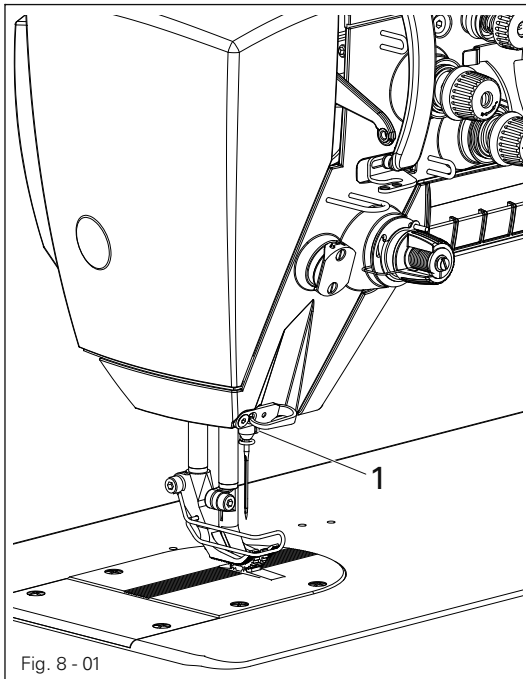

Fig. 8 - 01
- Pass the thread through the slot under the spring according to Fig. 8 - 04.
- Thread the machine as shown in Fig. 8 - 05.